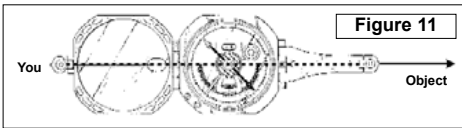

Figure 11
7. Sight azimuth by aligning peep sights with object. (Fig 11)